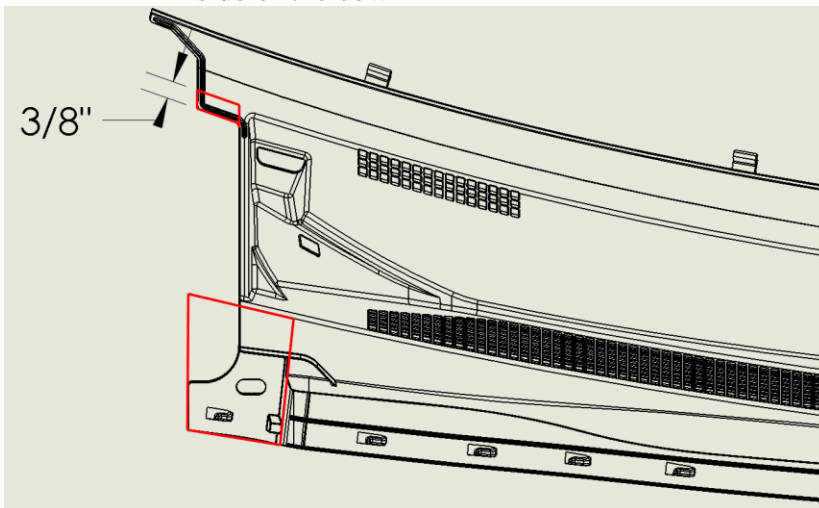

Fig 4
- c. Trim off the areas indicated with the red squares in **Fig 4** on the passenger side of the cowl.